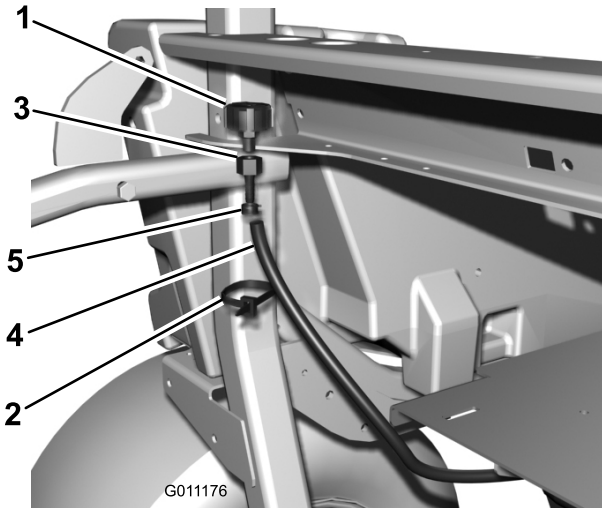

Figure 1
1. Locate the hydraulic tank breather mounted to the frame tube just ahead of the air cleaner mounting bracket (Figure 1). Remove the cable tie securing the breather to the frame tube.
2. Remove the hose clamp securing the straight fitting and the breather to the hose (Figure 1).